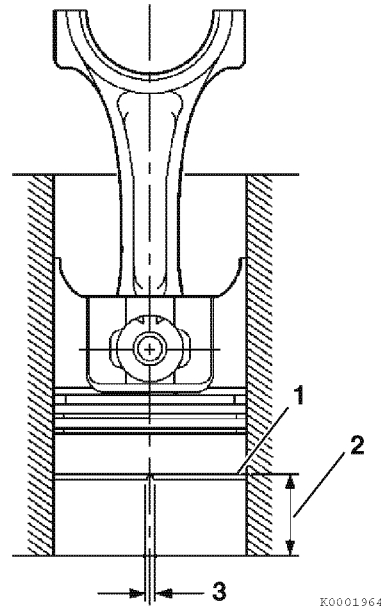

Figure 6-118
10. To measure piston ring end gap, insert each compression piston ring (1, Figure 6-118), one at a time, into the cylinder. Use a piston with the piston rings removed to slide the ring into the cylinder bore until it is approximately 1.18 in. (30 mm) (2, Figure 6-118) from the bottom of the bore. Remove the piston. Measure the end gap (3, Figure 6-118) of each piston ring. Record the measurements. See *Piston Ring* on page 6-14 for specifications.